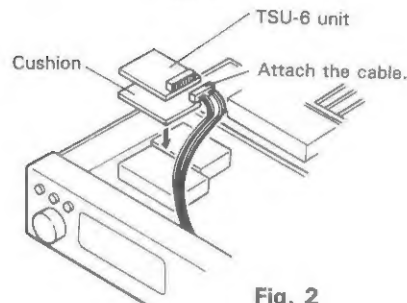

Fig. 2
3. Remove the backing from the small cushion provided with the TSU-6 and attach it to the back of the TSU-6 as shown in Fig. 2.